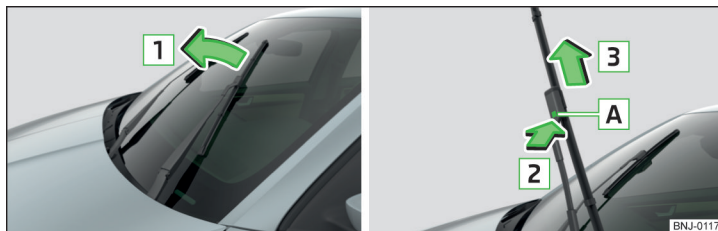

Fig. 278 Changing the front windscreen wiper blade
- › Lift the wiper arm from the windscreen in the direction of the arrow **1** » Fig. 278.